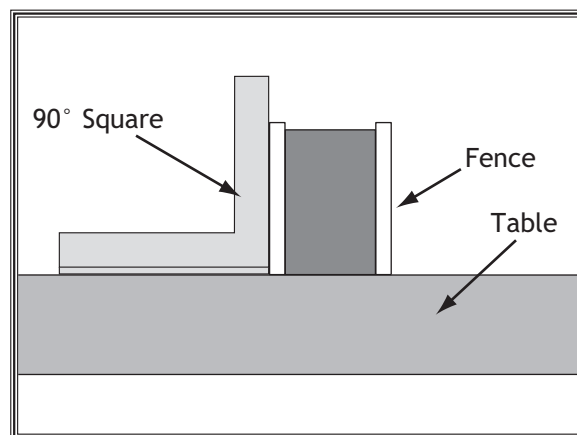

Figure 105. Check if the fence is square to the table.
8. Place a square on the table and against the face of the fence, as shown in **Figure 105**, to check if the fence is square to the table.
9. Loosen the top lock nuts and adjust the top set screws (see **Figure 105**) to make the fence face 90° to the table, then re-tighten the lock nuts.